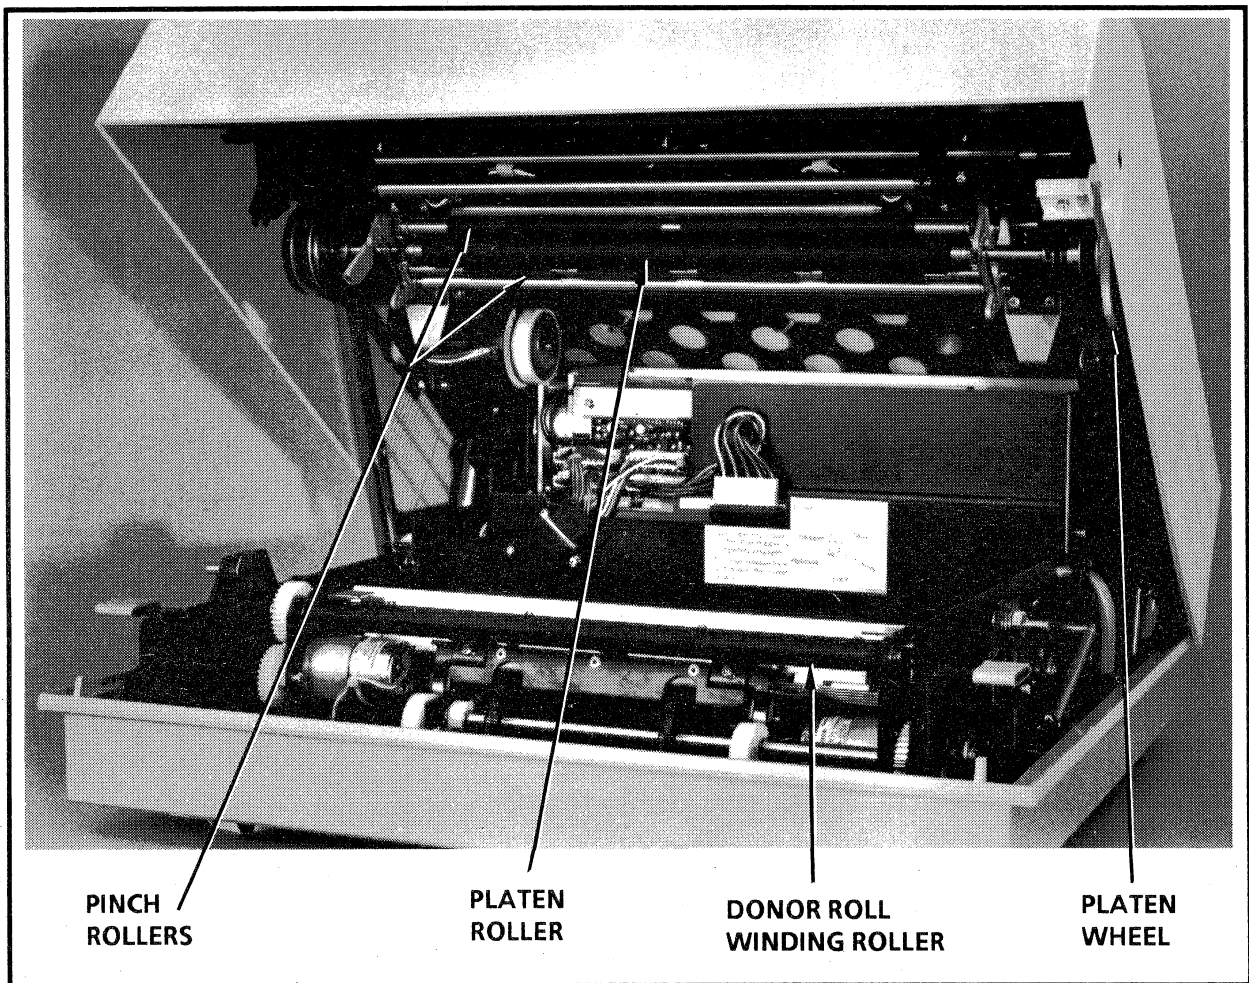

Figure 5-3. Platen Roller, Pinch Rollers and Donor Roll Winding Roller
### Cleaning the Platen Roller (shown in Figure 5-3)
1. Locate the platen roller inside the plotter cover (Figure 5-3).
3. Wipe the roller back and forth along its length, using the platen wheel to rotate the roller (Figure 5-3). Repeat this process until all residue has been removed.
**Cleaning the Pinch Rollers** (*shown in Figure 5-3*)
1. Locate the pinch rollers (Figure 5-3).
**Cleaning the Donor Roll Winding Roller** (*shown in Figure 5-3*)
1. Locate the donor roll winding roller (Figure 5-3).